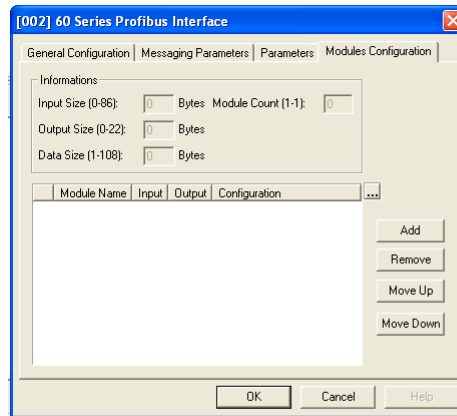

Figure 4
- In the "Configuration Modules" tab of the same window, insert the input and output modules in the order in which you physically placed them. Click on " add " (see *Figure 4*) and choose the one you want to add from the list of modules then validate the insertion with the OK button.